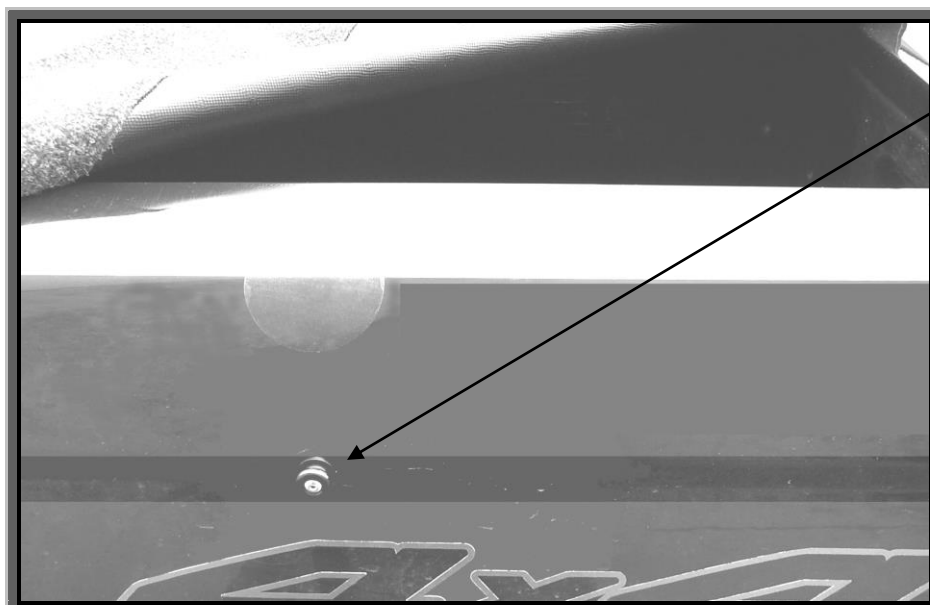

Figure 3
6. Neatly lay tonneau out over support bar and tub in the installed position. To fit the rope buttons to tub, use the panel crease in both the tailgate and side panels as a reference line, **See Figure 3**.